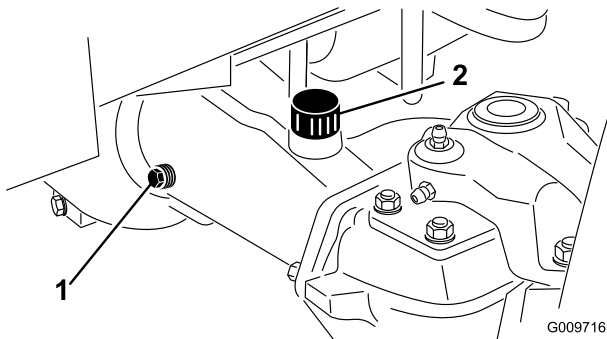

Figure 66
2. Remove a check plug (Figure 66) from one end of axle and make sure lubricant is up to bottom of hole. If level is low, remove the fill plug (Figure 66) and add enough lubricant to bring the level up to the bottom of the check plug holes.